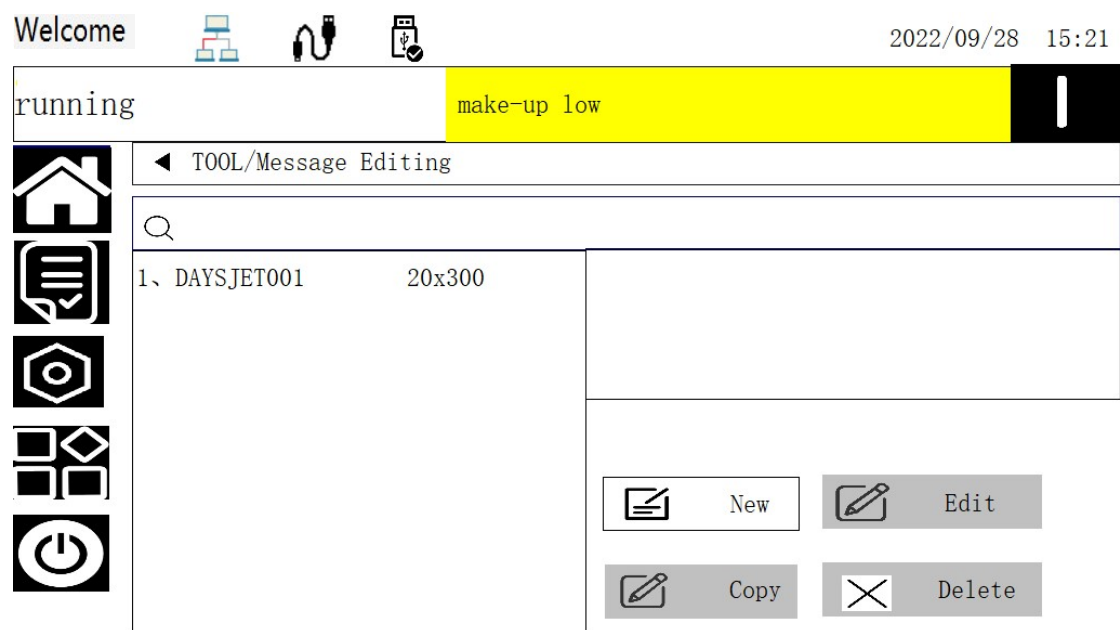

Figure4-3
- * The information list page is displayed, as shown in Figure 4-3.